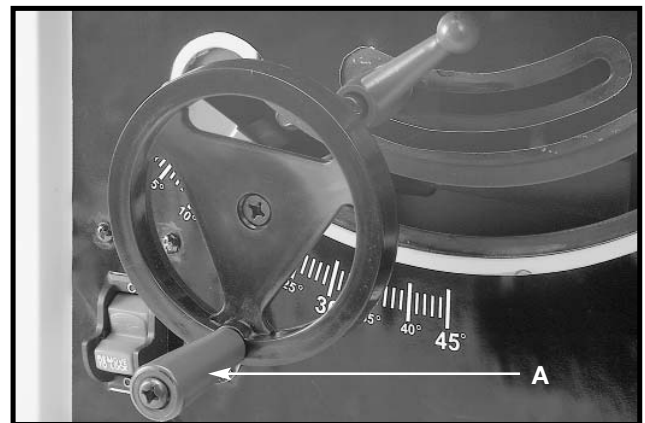

Fig. 29
To adjust the height of the saw blade, turn the handwheel (A) Fig. 29. Turning the handwheel clockwise lowers the blade and turning the handwheel counter-clockwise raises the blade.